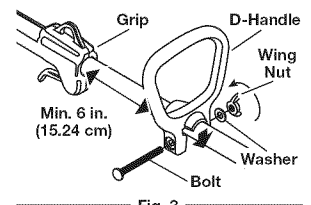

Fig. 3
1. Push the D-handle down onto the shaft housing (Fig. 3). The hex bolt hole in the handle should be on the left side.